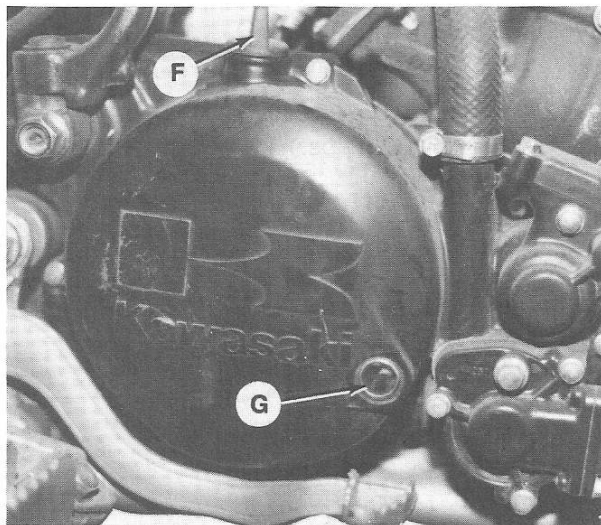

Fig. K10-1—Transmission sump oil level must be maintained at middle of sight glass (G). Add oil through filler cap (F) opening.
The transmission sump is filled through filler cap (F—Fig. K10-1) opening. Oil level should be maintained at middle of sight glass (G). Sump is drained by removing plug in underside of sump. Transmission sump capacity is 700 mL (23.8 oz.) on all A1 and A2 models and 800 mL (27.2 oz.) on B1 and B2 models. Tighten transmission sump drain plug to 20 N·m (14.5 ft.-lbs.).